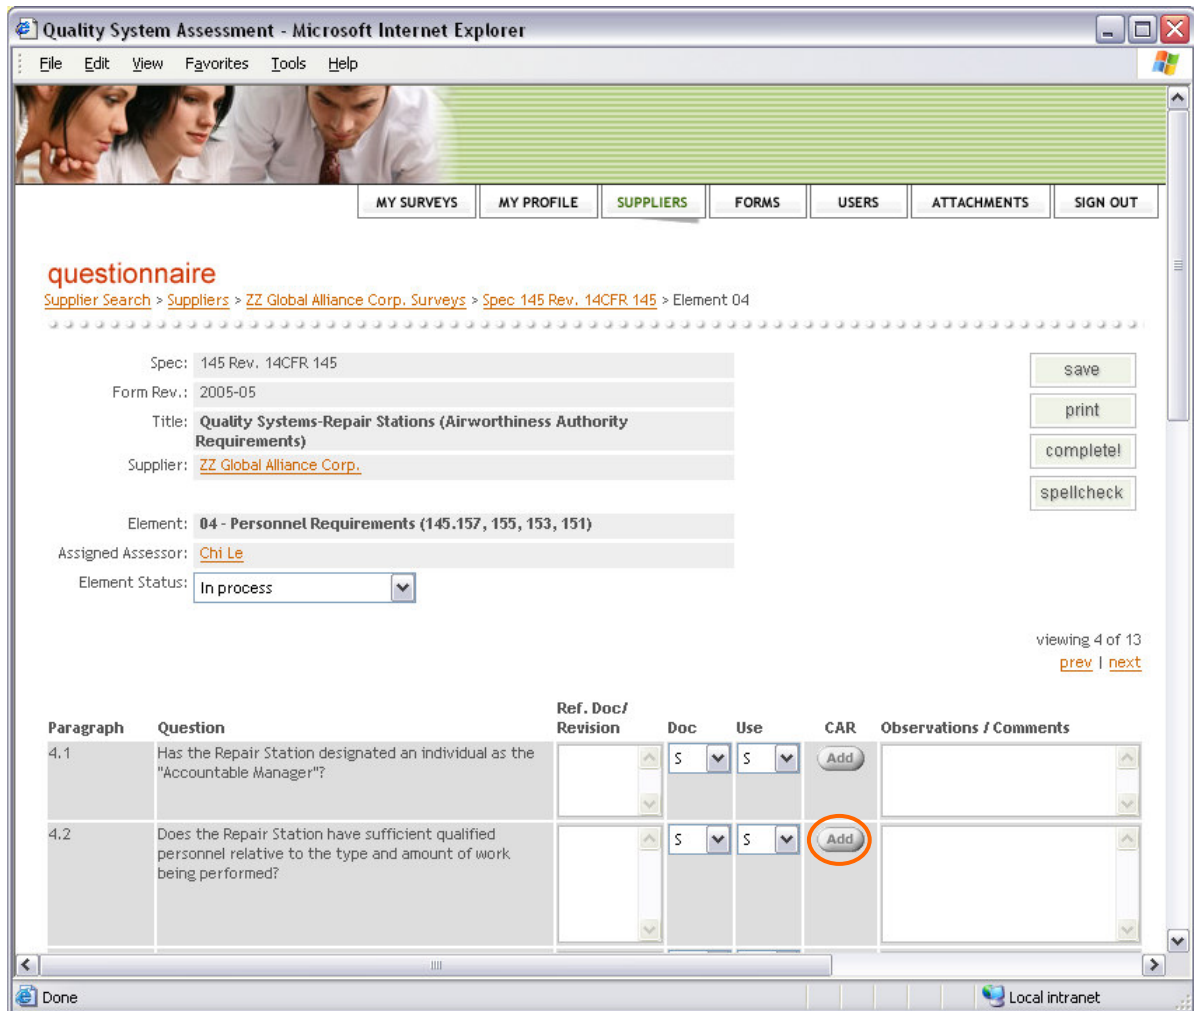

Figure 35 – Add Corrective Action Request
- Click on the "Add" button (as shown below) of that question to open the "corrective action request" page (figure 35).